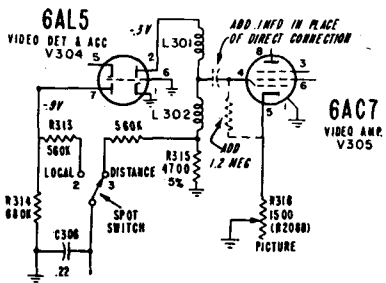

Fig. 7 - Admiral
**Picture bending on Distant position of Local-Distant switch (see Fig. 7).**